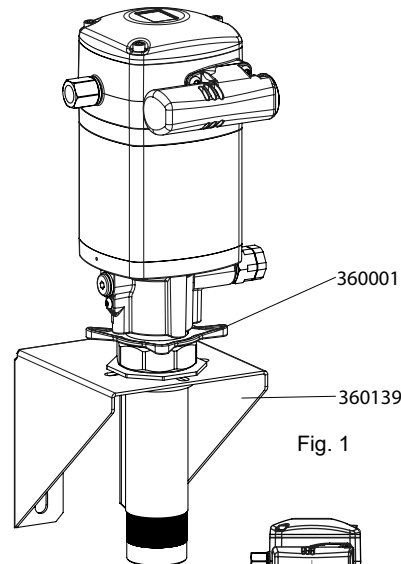

Fig. 1
- Wall mounting with bung adapter. Insert the pump through the wall bracket 4411-039 and attach it with the bung adapter 360001 (Fig. 1).